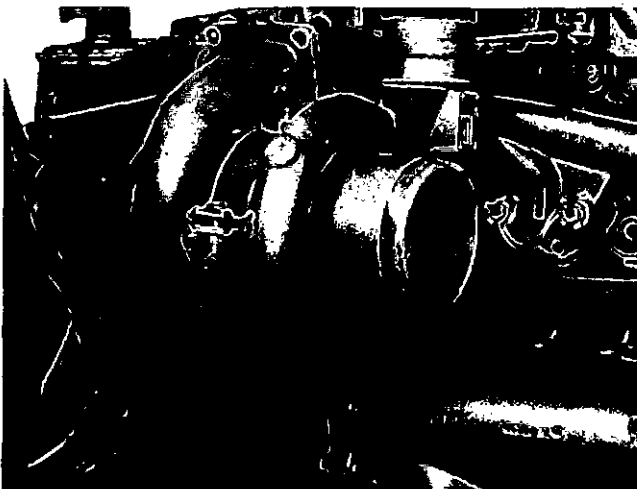

Fig. 0-10. Remove The Turbocharger.
3. Before you remove the turbocharger, remove all heat shields for the turbocharger. Remove the locknuts that hold the turbocharger to the exhaust manifold. Lift the turbocharger from the flange on the exhaust manifold, Fig. 0-10.